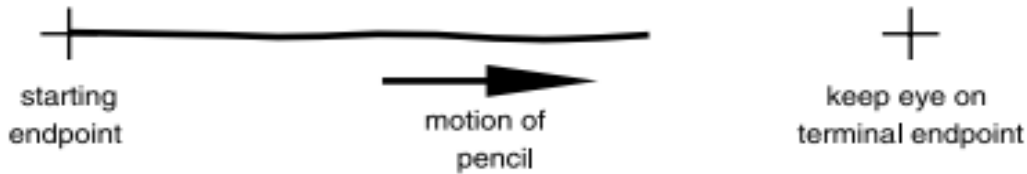

Fig. 3.31: Sketching a line
- Put pencil on start dot, look at the end dot and smoothly move pencil toward the end dot as shown in Fig. 3.31.